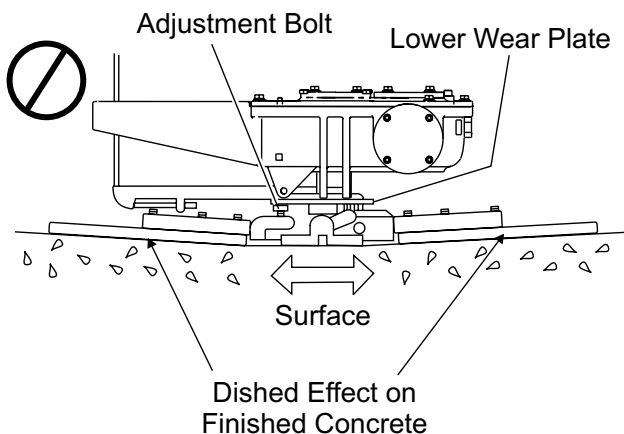

Figure 35. Incorrect Spider Plate Alignment
2. Pitch the blades as flat as possible. The adjustment bolts should all barely make contact with the lower wear plate on the spider. If one is not making contact, adjustment will be necessary. (Figure 35).
Figure 35 illustrates, "incorrect alignment", worn spider bushings or bent trowel arms. Check that the adjustment bolt is barely touching (0.10" max. clearance) lower wear plate. All alignment bolts should be spaced the same distance from the lower wear plate.
2. Each trowel arm is held in place at the spider plate by a hex head bolt (zerk grease fitting) and a roll pin. Remove both the hex head bolt and the roll pin (Figure 35) from the spider plate.